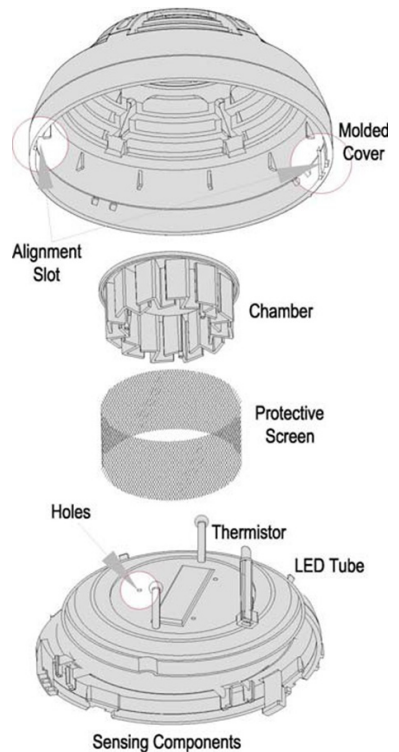

Figure 12 Exploded View
2. Remove the protective screen by pulling it straight out. (Figure 12).
4. Position the chamber and screen by aligning three tiny holes over the sensing component. (Figure 12).
5. Align the LED tube and tabs and gently pushing the cover until it locks into place. (Figure 12).